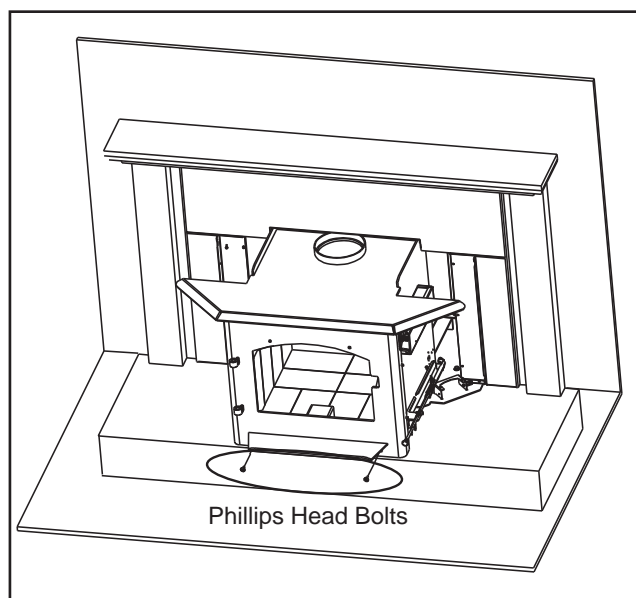

Figure 41.1
1. Slide the appliance into the outer can. Secure with Phillips head bolts previously removed from under the ashlip. **Figure 41.1.**